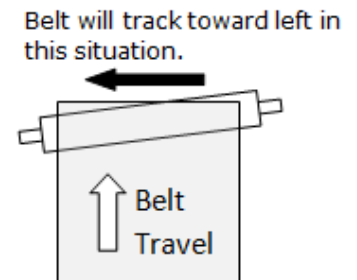

Figure 2.8 – Improper Belt Tracking due to rollers not being square.
- Prior to starting the conveyor, adjust the pulley tensioning bolts so the belt is snug on the conveyor. Again, ensure that all pulleys and rollers are square and level. Avoid the situation shown in *Figure 2.8*.